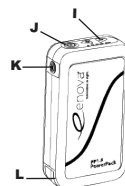

Figure 0.3
3. Connect mobile charger to battery's charging port. (Figure 0.2, Figure 0.3)